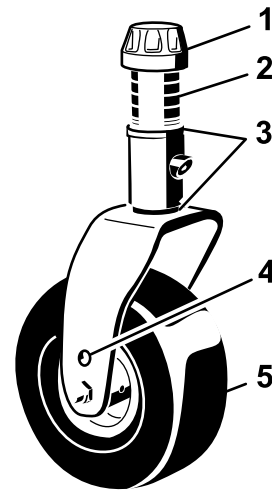

**Figure 95**
5. Loosen the jam nuts on the top or bottom of the height-of-cut chain U-bolt (Figure 95).